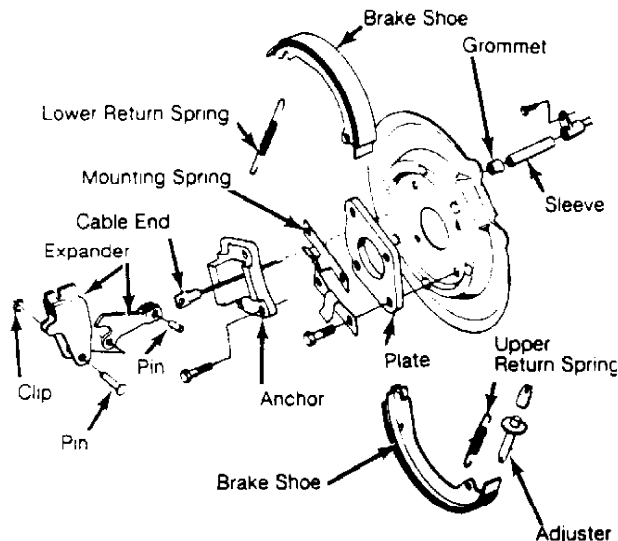

Fig. 2: Identifying Parking Brake Components
2) Remove caliper (without disconnecting hydraulic line) and support out of way. Remove rotor. Remove brake shoe return springs. Lift off shoes and adjuster. See Fig. 2.